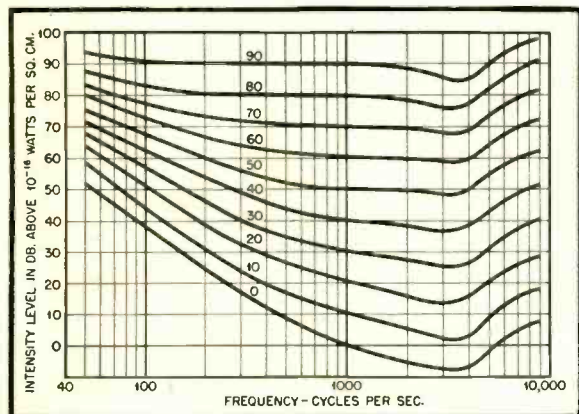

Fig. 1. Fletcher-Munson curves relating response of the human ear to various sound levels.
**R**ESARCHES WHICH RESULTED, after many years, in the Fletcher-Munson response curves illustrated in Fig. 1, are now finding their way into discussions of the design of audio equipment. Their significance is not always appreciated, and attempts to translate them into the art of audio design are not always adequate or correct.
Second, tone controls and tone compensators should be designed to give more than 25 db bass boost and more than 10 db treble boost, and the point of transition should be between 2000 and 4000 cps. This degree of compensation is needed to enable the listener to correct for inadequate bass or treble reproduction from the loudspeaker itself, to correct for losses due to the placement of the loudspeaker away from the corner of the room or on the wall, or, in regard to the highs, facing a wall which is a short distance away. It is also needed to correct for listening level, which may be lower than average, and for listener preference. The selection of a high transition point was made after consideration of many factors. Because this point corresponds to the point of greatest aural sensitivity, no compensation is needed there. The selection of a lower transition point, for example, at 800 cps, results in boosts of 5-10 db in the region of 2000-4000 cps. This has two effects: first, it partly cancels the boost relative to 50 and 10,000 cps; and second, as shown in Fig. 2, it increases the peak in the 2000 to 4000-cps region, thereby giving an effect of increased treble without any improvement in tone quality or listening effect. The use of 1000 cps as a transition point for treble increase is common, but this point is only a little better than the 800-cps point. The lowest point for satisfactory treble boost is 1500 cps. However, where a separate bass boost is used, or if bass boost alone is desired, the transition point of 800 cps is satisfactory, as the intensity curves in Fig. 1 for needed compensation begin to bend at this point.